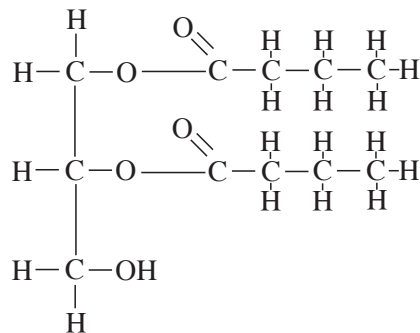

Fig. 15 A diglyceride.
E. Repeat the formation of an ester bond on the middle carbon of the monoglyceride to make a diglyceride (Fig. 15), and have your model checked.